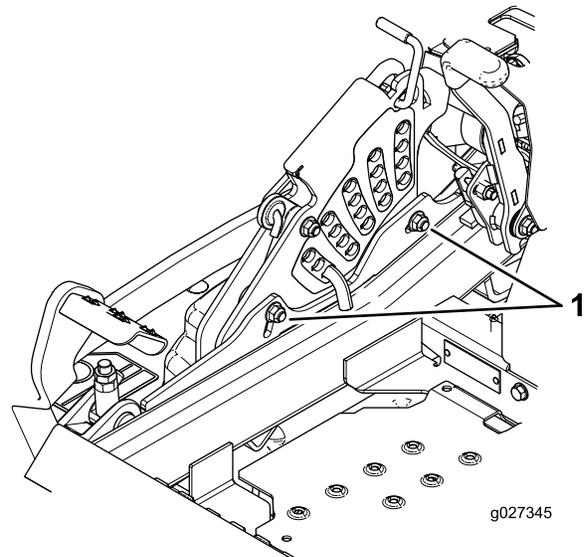

Figure 109
- To adjust the single-point system, loosen the 2 bolts at the bottom of the height-of-cut plate (Figure 109).
13. Tighten the 2 bolts at the bottom of the height-of-cut plate (Figure 109).